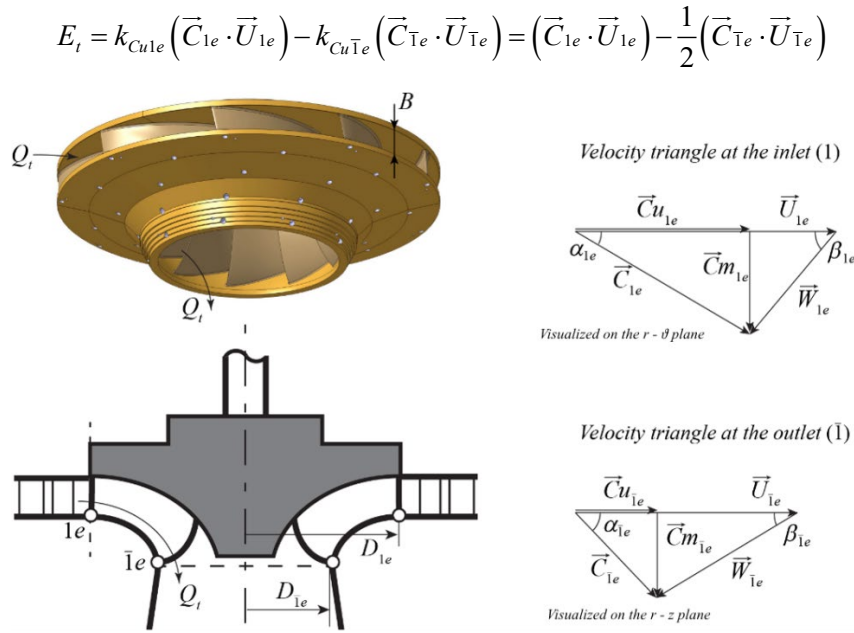

Figure 3: Velocity triangle of the pump-turbine in turbine mode
For the calculation of the transformed specific energy  $E_t$ , the velocity triangle representing the relationship of the discharge velocity with the turbine rotational velocity and the Euler equation play a decisive role. The schematics of the pump-turbine and an example of the velocity triangle are shown in Figure 3. In this section, we set the values of  $k_{Cu_{1e}}$  and  $k_{Cu_{\bar{1}e}}$  such that  $k_{Cu_{1e}} = 1$  and  $k_{Cu_{\bar{1}e}} = \frac{1}{2}$ . If necessary, use the following values:  $D_{1e} = 4.0 \text{ m}$ ,  $D_{\bar{1}e} = 1.6 \text{ m}$ ,  $B = 0.234 \text{ m}$
- 9) Referring to the vectorial relationship in Figure 3, deduce the scalar form of the Euler equation using the necessary variables among  $Cu_{1e}$ ,  $Cm_{1e}$ ,  $U_{1e}$ ,  $Cu_{\bar{1}e}$ ,  $Cm_{\bar{1}e}$ , and  $U_{\bar{1}e}$ .